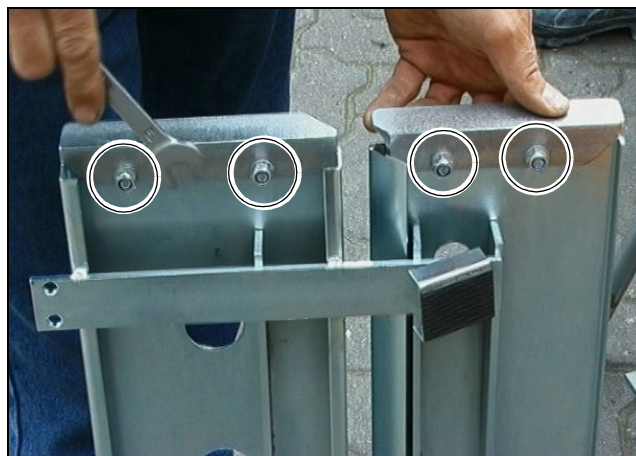

Fig. 5.15 M 8 fastening nuts of the end stop
1. Slightly loosen the four M 8 holding screws e.g. the screws of the end stop (Fig. 5.15)!